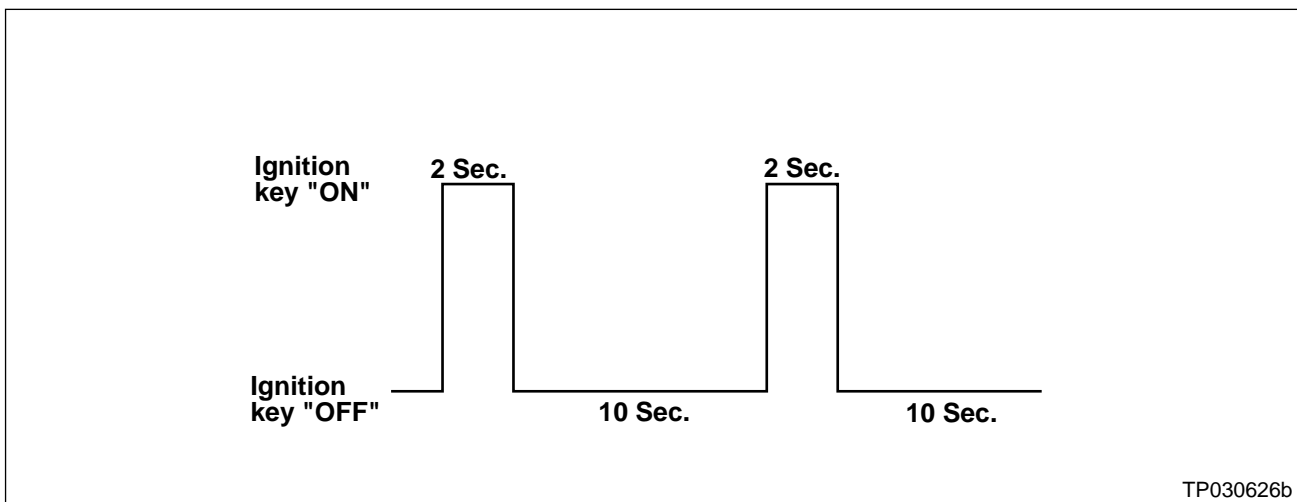

Figure 2
- e. Turn the ignition switch "OFF" again for 10 seconds (see Figure 2).